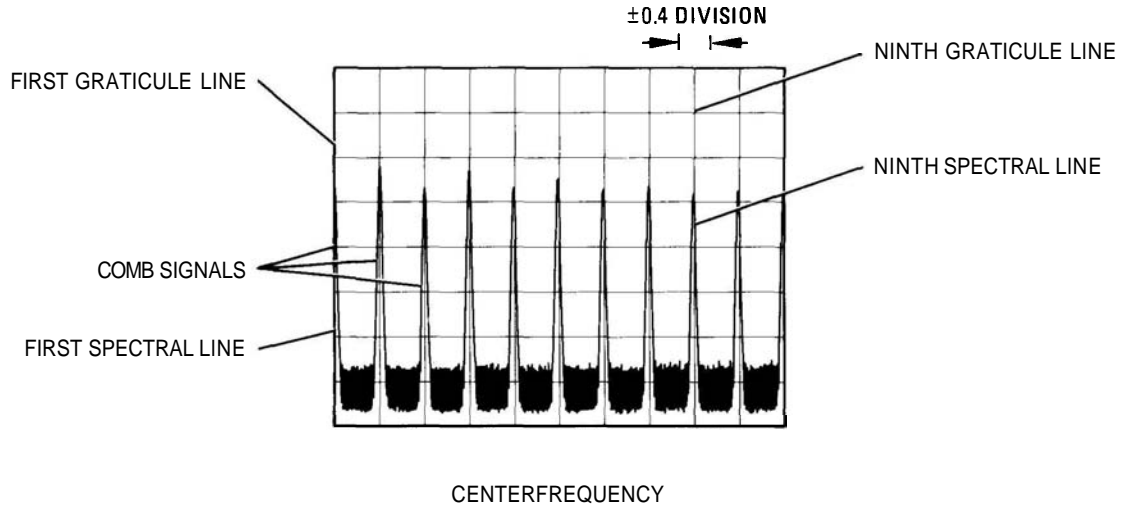

FIGURE 4-3. FREQUENCY SPAN ACCURACY MEASUREMENT FOR NINTH SPECTRAL LINE
- Set comb generator **COMB FREQUENCY** – MHz for 10-MHz comb. Set spectrum analyzer **FREQ SPAN/DIV** to 20 MHz. Adjust TUNING control to position one spectral line on the first graticule line. Measure the error between 17th spectral line and ninth graticule line as shown in Figure 4-3. Error should be no greater than  $\pm 0.4$  division.